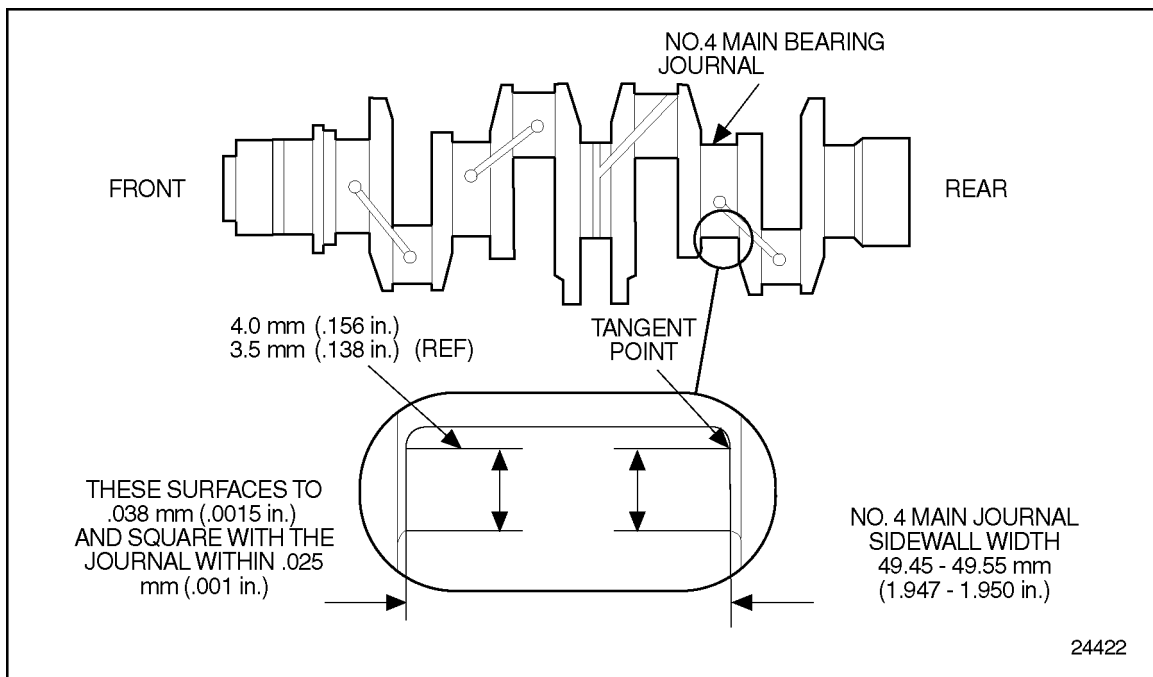

Figure 1-444 No. 4 Main Journal Thrust Wall Dimensions
- [c] If wear is 0.0508 mm (0.002 in.) or more, regrind to restore flatness to the thrust wall. See Figure 1-444.